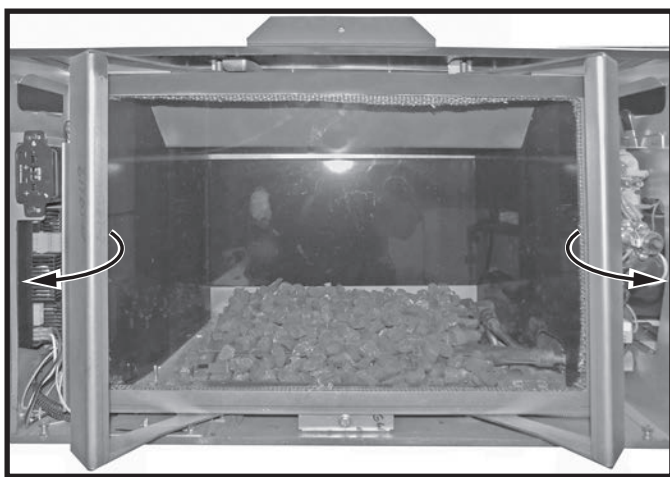

Figure 20: Locking the glass door.
3. Once the glass door is seated, close the door handles outward and inward until they stop (Figure 20).